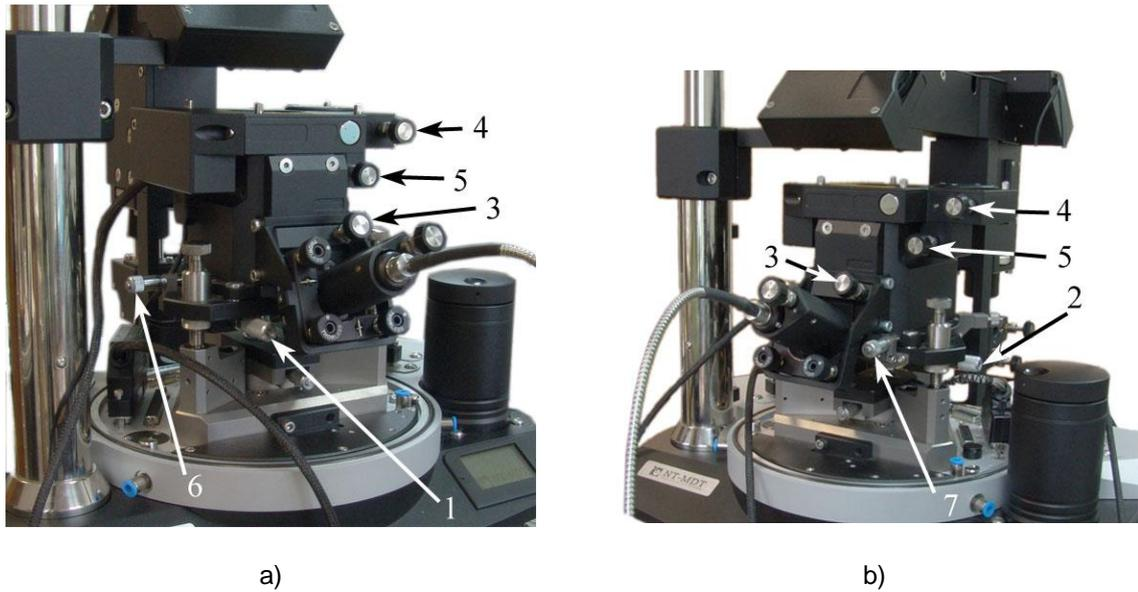
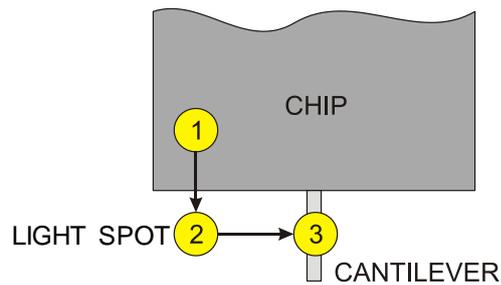

Fig. 8-27. Adjusting elements of the detection system
Fig. 8-28. Aiming the light spot at the cantilever
3. Watch the probe and move it with the screws 1 and 2 (see Fig. 8-27) to the position anywhere the light spot appears on the probe chip (pos. 1 in Fig. 8-28).
4. Move the light spot until it comes in front of the probe chip by displacing the probe with the screw 1 forward to the moment the spot appears on the sample (pos. 2 in Fig. 8-28).
5. Move the probe with the screw 2 along the light spot until the spot comes to the cantilever (pos. 3 in Fig. 8-28). This results in displaying a distinct bright spot on the optical viewing system monitor.